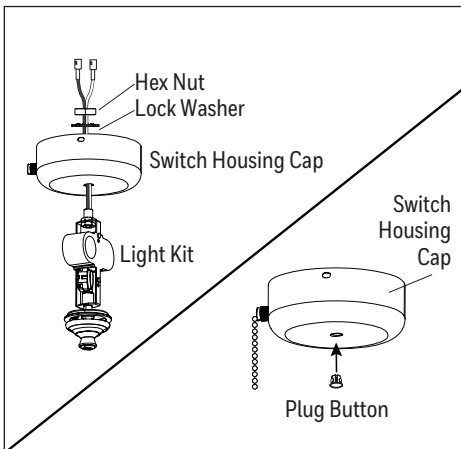

Figure 3.1
1. Remove the preassembled hex nut and lock washer from inside the switch housing cap. Then remove the light kit from the switch housing cap. Install the plug button (Figure 3.1).